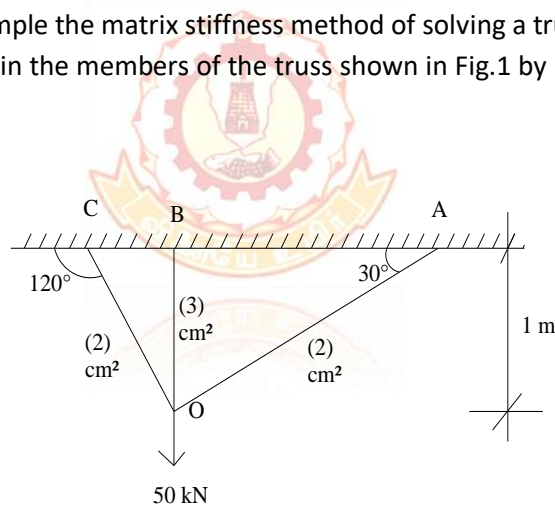

Fig.1
- Determine the forces in the members of the truss shown in Fig.1 by matrix stiffness method. Take  $E = 200 \text{ GPa}$ .